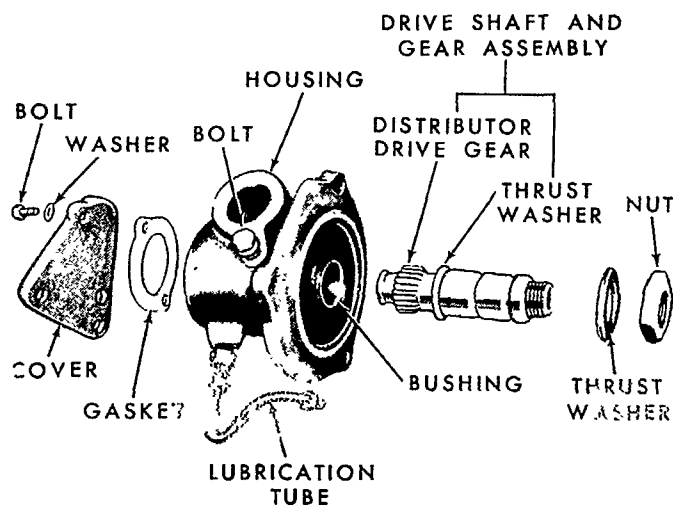

Figure 77
The distributor is attached to the top of the drive housing and is secured with a retaining bolt. The bolt also acts to adjust the timing by securing the timing clamp. Refer to Figure 77 to identify the parts of the distributor drive assembly.
1. Remove the Woodruff key from the front of the shaft and remove the thrust washer, Figure 77.
3. Check the shaft assembly, Figure 77, for wear. Be sure the keyway is in good condition. Check the drive gear for wear or broken teeth. Check the thrust washer and snap ring between the gear and the shaft for damage. If any of these conditions exist, discard the shaft assembly.
Refer to Figure 77 for reference during assembly.